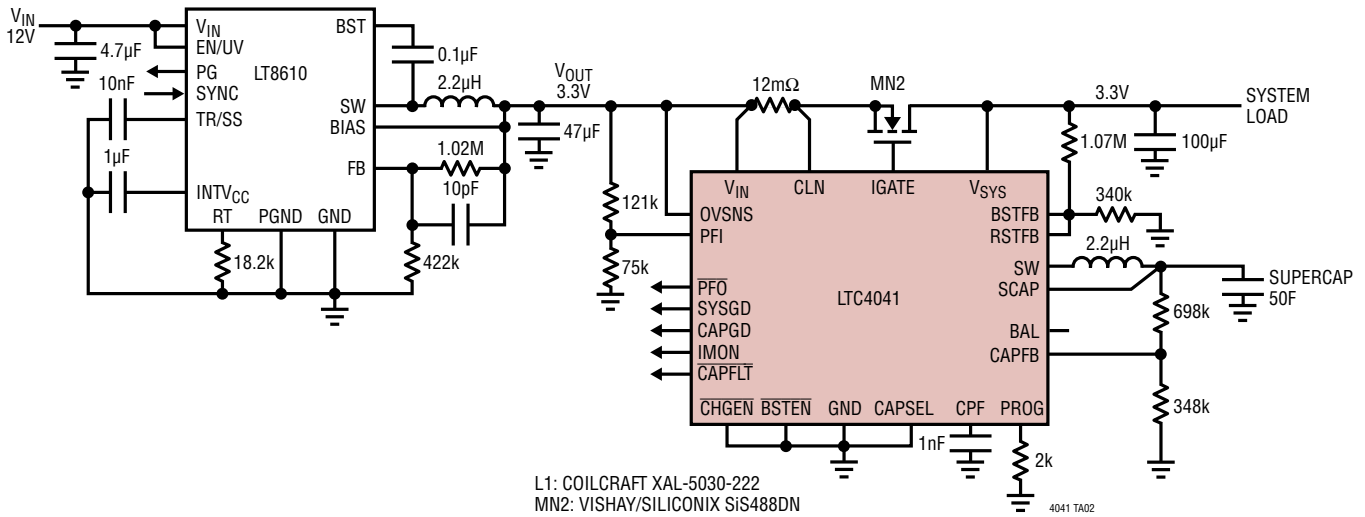

**Figure 4. High Frequency Ground Currents Follow Their Incident Path. Slits in the Ground Plane Cause High Voltage and Increased EMI**
- To minimize parasitic inductance, the ground plane should be as close as possible to the top plane of the PC board (Layer 2). High frequency currents in the hot loop tend to flow along a mirror path on the ground plane which is directly beneath the incident path on the top plane of the board as illustrated in Figure 4. If there are slits or cuts or drill-holes in this mirror path on the ground plane due to other traces, the current will be forced to go around the slits. When high frequency currents are not allowed to flow back through their natural least-area path, excessive voltage will build up and radiated emissions will occur. So every effort should be made to keep the hot-loop current path as unbroken as possible.